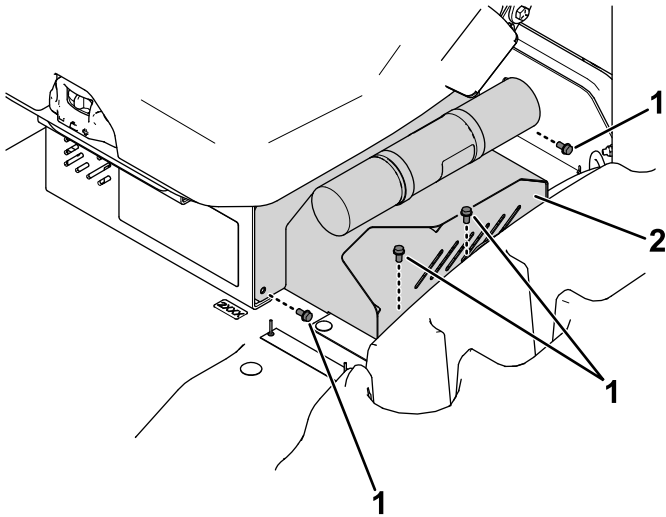

Figure 12
2. Remove the charger-cable cover (Figure 12).
3. Install the charger-cable cover (Figure 12).